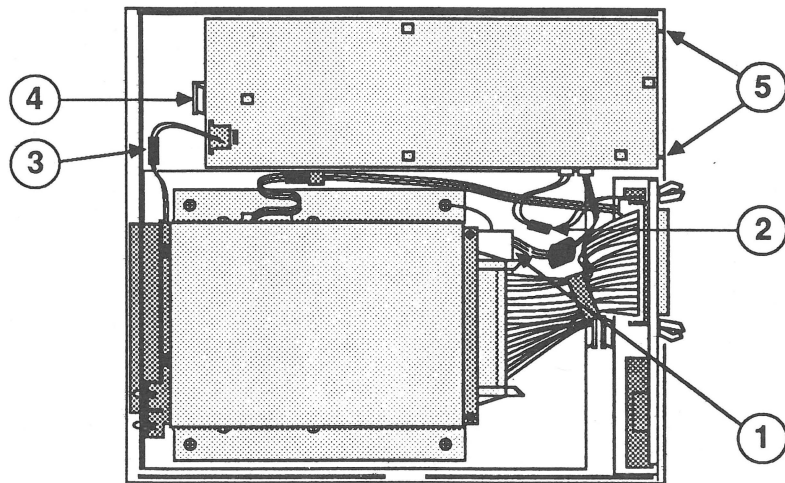

FIGURE 2
2. Disconnect the power supply cable from the tape backup mechanism (Figure 2, #1).
3. Disconnect the fan cable by releasing the little holding clip on the connector (Figure 2, #2).
4. Disconnect the LED cable (Figure 2, #3).
5. Push back the power supply holding tab (Figure 2, #4) and lift the power supply free.
1. Slide the power supply toward the holding tabs inside the back of the case (Figure 2, #5). The plastic tabs on the bottom case fit into square holes in the power supply's metal case.
2. Settle the power supply into place so that the edge of the metal bracket fits under the large holding tab (Figure 2, #4) at the front end of the machine.
3. Connect the LED cable (Figure 2, #3).
4. Connect the fan cable (Figure 2, #2). It fits only one way.
5. Connect the power supply cable to the tape backup mechanism (Figure 2, #1). It fits only one way.